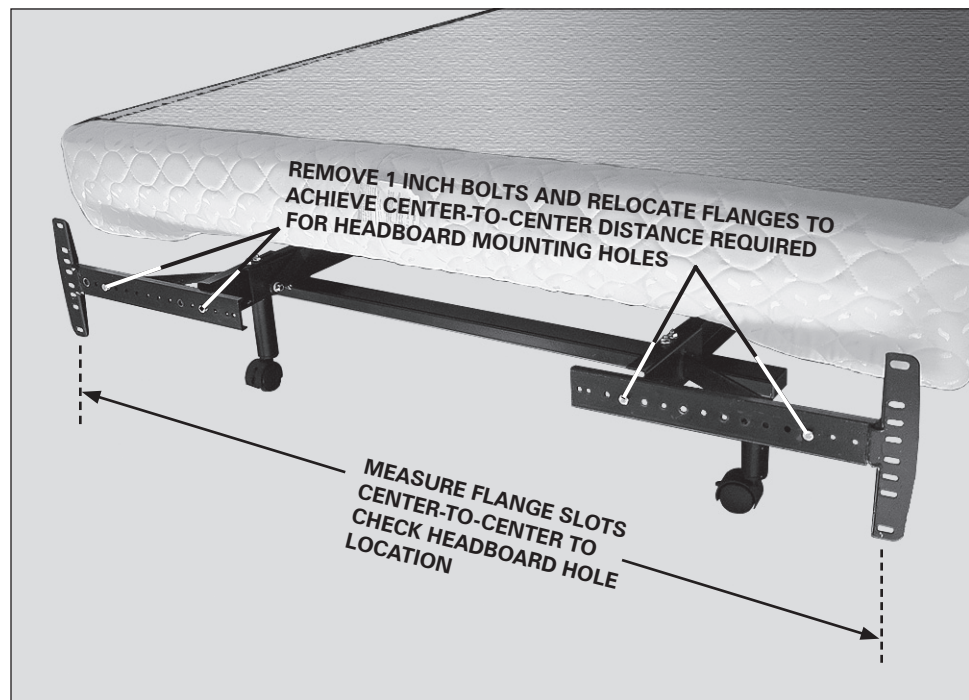

FIGURE 10: Headboard bracket measurement and adjustment to accept headboard.
- g. Measure the center-to-center distance between the mounting slots of the headboard bracket flanges (**FIGURE 10**).
- h. If bracket flange adjustment is required to accept the headboard, remove the 1 inch headboard bracket flange bolts and move flanges side-to-side for the adjustment (**FIGURE 10**). Reinstall bolts and tighten.